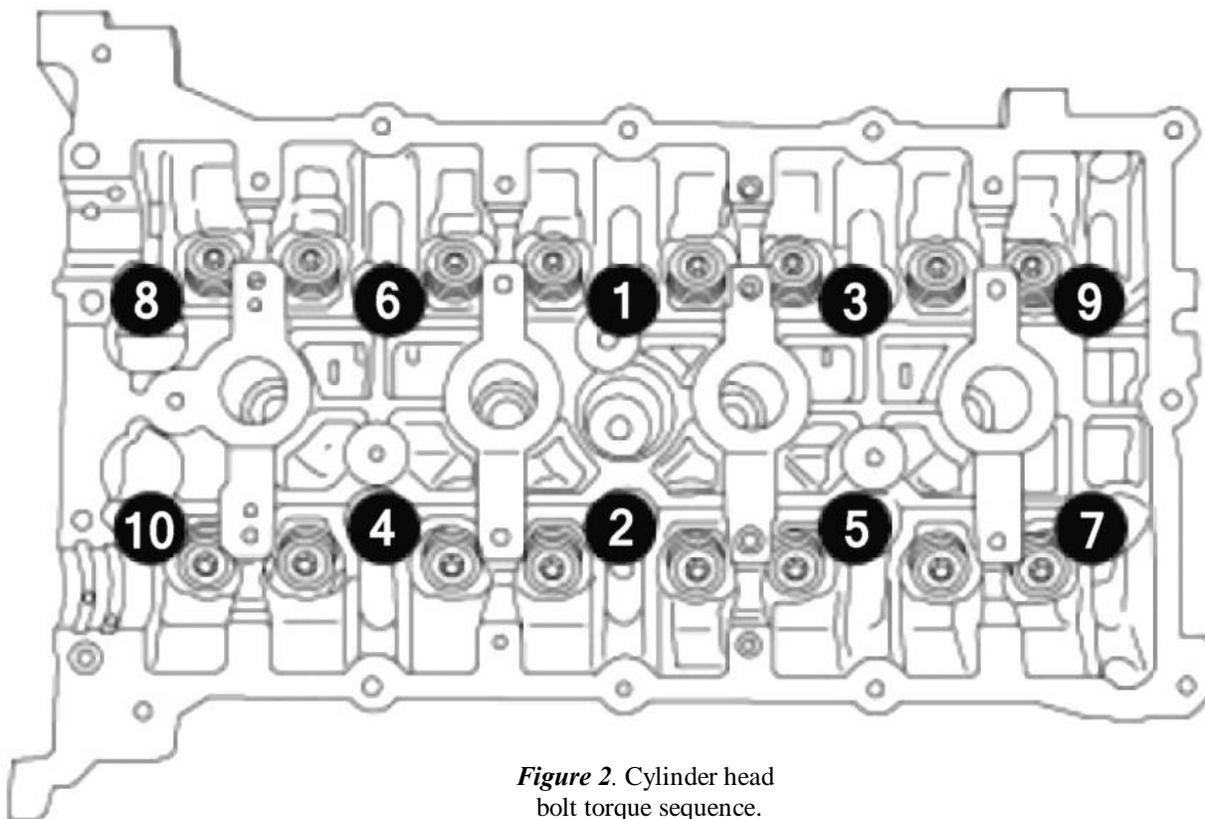

Figure 2. Cylinder head bolt torque sequence.
3. **SHORT HEAD BOLTS:** Install the cylinder head bolts and tighten in the sequence shown in **Figure 2**. If your bolt has the short head (1), use the following torque specifications:
4. **LONG HEAD BOLTS:** If your bolt has the long head (2), use the following torque specifications and the sequence shown in **Figure 2**.